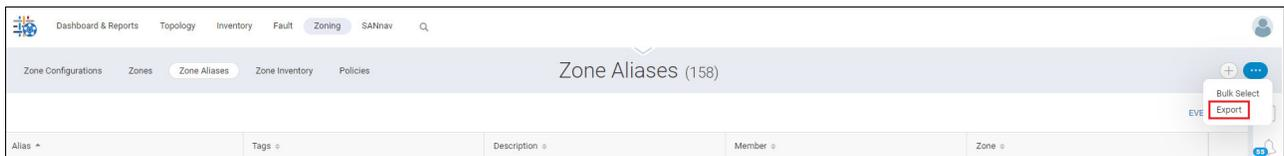

Figure 5-26 Exporting aliases
3. Click **More (...)** at the upper right of the window, and then select **Export**, as shown in Figure 5-26.